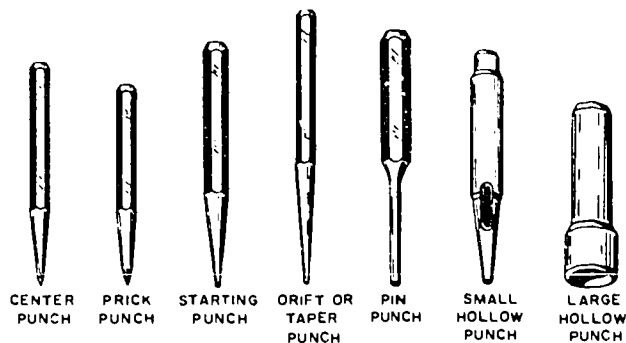

Figure 2-8. Hand punches.
**Hand Punches.** There are many types of hand punches that can be used in sheet metal shops; however, the punches illustrated in figure 2-8 are used more often than others. The heads and points should be kept in good condition in the same manner as chisels. The *center punch* is used to make a small depression in metal prior to drilling or punching. This depression prevents the twist drill from "walking" during the drilling operation. The *prick punch* is used to establish location points when laying out patterns on sheet metal. The *starting punch* is tapered for strength, has a blunt tip, and is used to loosen tight-fitting pins that are removed from a hole. A *drift punch* (taper punch) is also used to loosen tight-fitting pins, although its slender taper is not as strong as the starting punch. The drift punch is often used to align holes in two pieces of metal prior to installing screws, bolts, or rivets. The *pin punch* has no taper; it is used to drive out rivets which have had the heads drilled off and to drive pins out of holes too deep for the starting punch or drift punch. The starting punch, drift punch, and pin punch are blunt end punches and are sometimes called solid punches. *Hollow punches* when used with suitable backup material are used to pierce holes in thin metal.